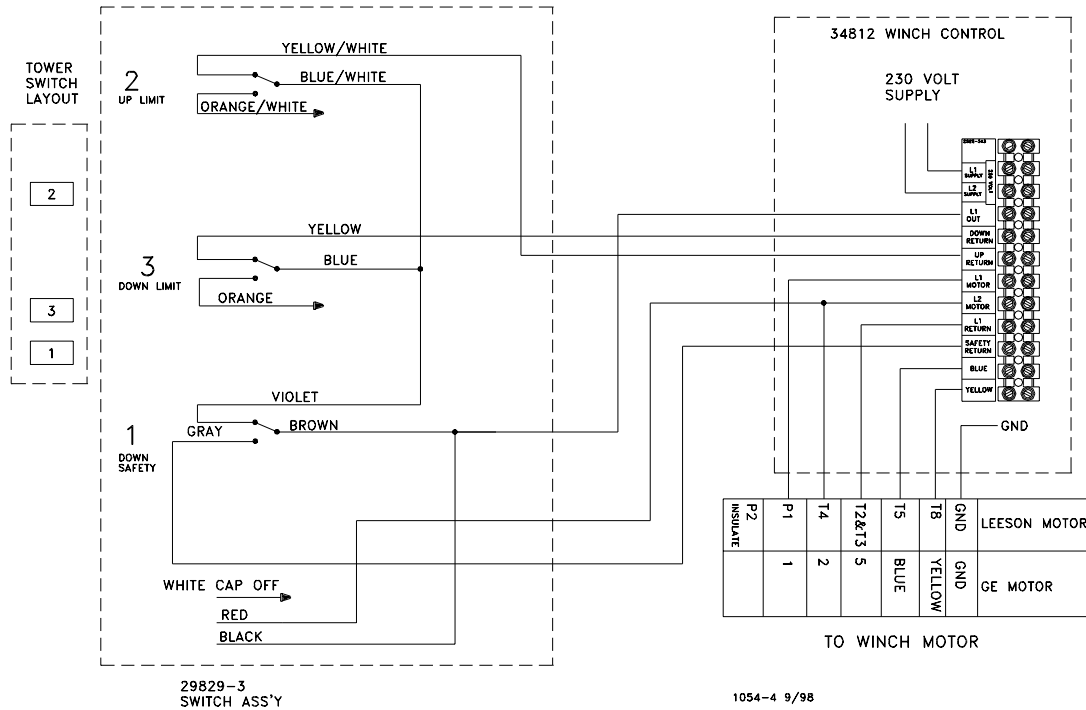

Figure 12. System Wiring Diagram
Remove the (2) bolts securing the Pipe Clamp Bracket and Clamp Strap from the bottom of the Limit Switch Assembly. Slide the Switches off the 2" PVC Tube. To rearrange: refer to the order specified in **Part No. 29820-3** (Tower Switch Layout) on page 15. Remove and discard Items 6, 10, 13 and 14. Refer also to **Figure 12** in the Wiring diagrams on page 13.